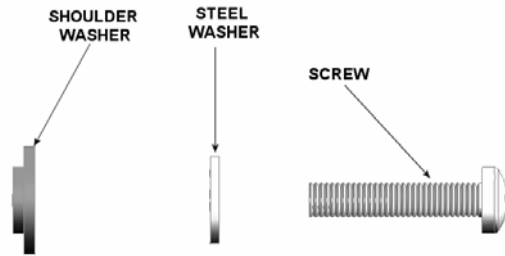
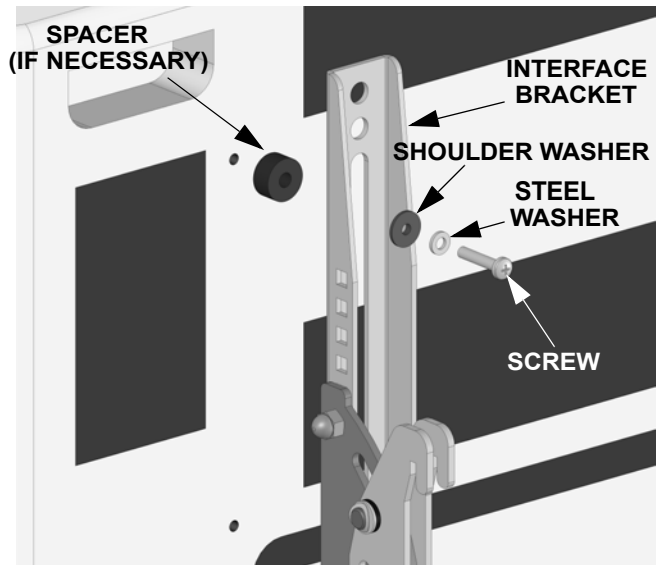
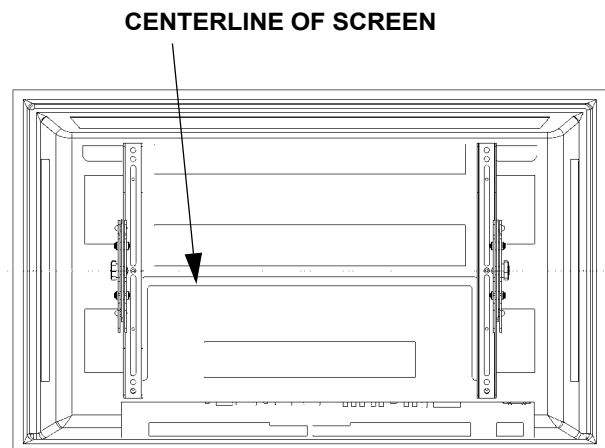

Figure 4. Attachment Parts
Figure 5. Interface Bracket Attachment
Figure 6. Center Line of Display
2. Position the interface bracket assemblies (20 and 30) with the tension knob on the tilt bracket faced toward the outside of the display (refer to Figure 5).
- Secure the left and right factory assembled interface bracket assemblies (20 and 30) to the display. Select the mounting hardware that fits your application. Read the following list and refer to Figure 4 and Figure 5.
- Use M6 screws (70 or 80) or M8 screws (40, 50, or 60), steel washers (160), and shoulder washers (200).
- Or, use M4 screws (120, 130, or 140) or M5 screws (90, 100, or 110) steel washers (150), and shoulder washers (190).
- Find the center line of the display once again (see Figure 6).
- If necessary, remove the attaching hardware and move the tilt brackets as close to the center line of the display as possible (see Figure 6). Re-install the tilt brackets onto the interface brackets.